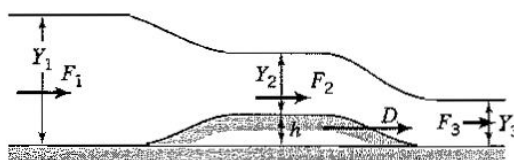

Figure P10.63
10.63 Water flows steadily in an open channel of width W , as shown in Figure P10.63. It passes smoothly over a bump of height h . Initially, the Froude number $F_1 = 0.5$, and the depth of the water is Y_1 . The water depth decreases to a depth of Y_2 over the bump, and then continues to decrease downstream of the bump to a depth of Y_3 .